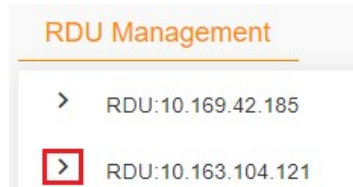

Figure 6-16 Effect of folded devices under the RDU
1. On the RDU list, you can click  to fold the devices under RDU (as shown in Figure 6-16).